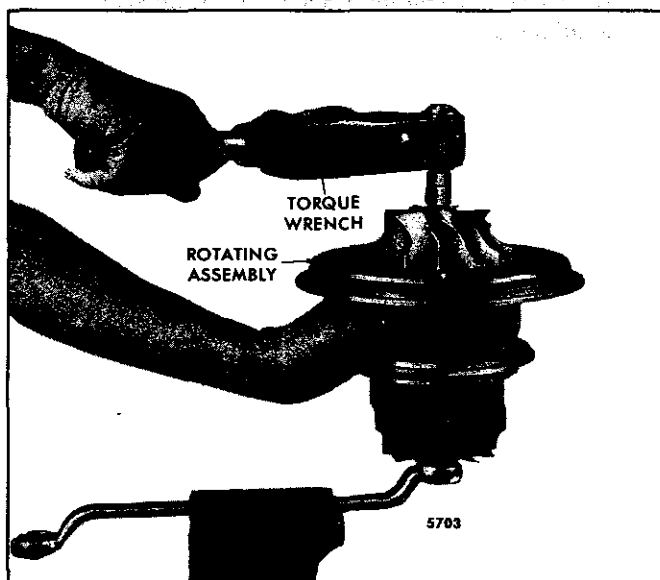

Fig. 18 - Tightening Compressor Locknut
16. Lubricate the back face and threads of the lock nut with anti-seize compound. Install the lock nut on the shaft finger tight (until elastic of nut engages shaft threads) and place an 11/16" socket on the turbine wheel lug to prevent the shaft from turning. Use a torque wrench to tighten the lock nut to 13 lb-ft (18 N·m) torque (Fig. 18).